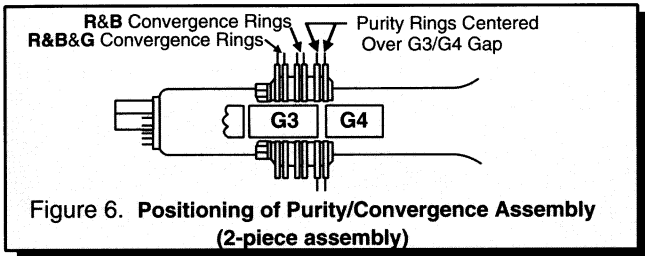

Figure 6. Positioning of Purity/Convergence Assembly (2-piece assembly)
### For a 2-piece assembly (see Fig. 6):
**For a 2-piece assembly** (see Fig. 6):